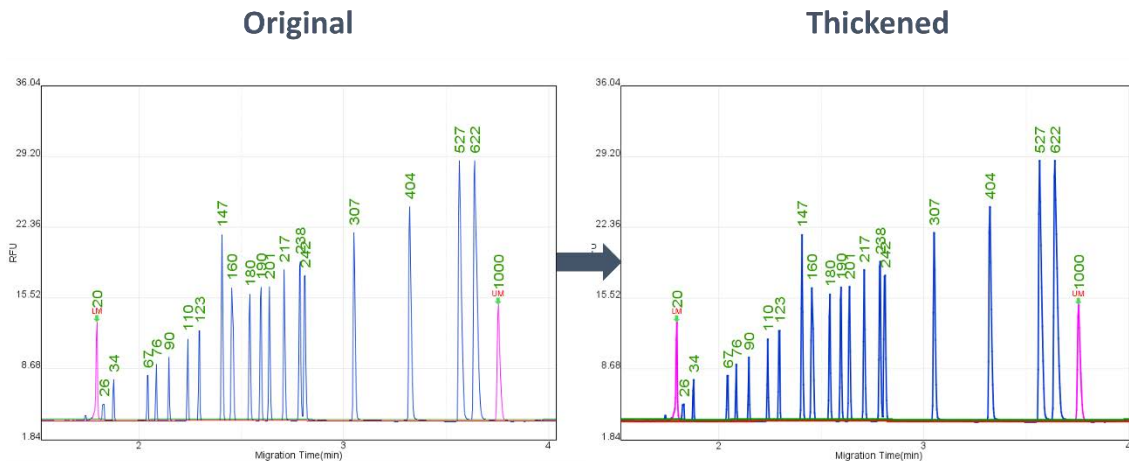

Figure 40 Change Line Thickness
**Signal Offset (Figure 40 E)**